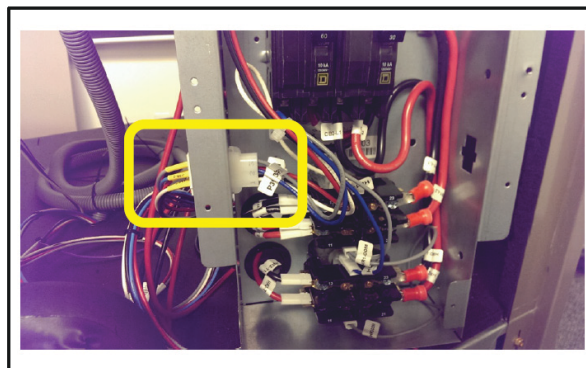

Fig. 15 – Connect J39 Plug Into P39 Connector
5. Connect J39 plug into the connector P39 on the side of the electric heat control box. See Fig. 15.